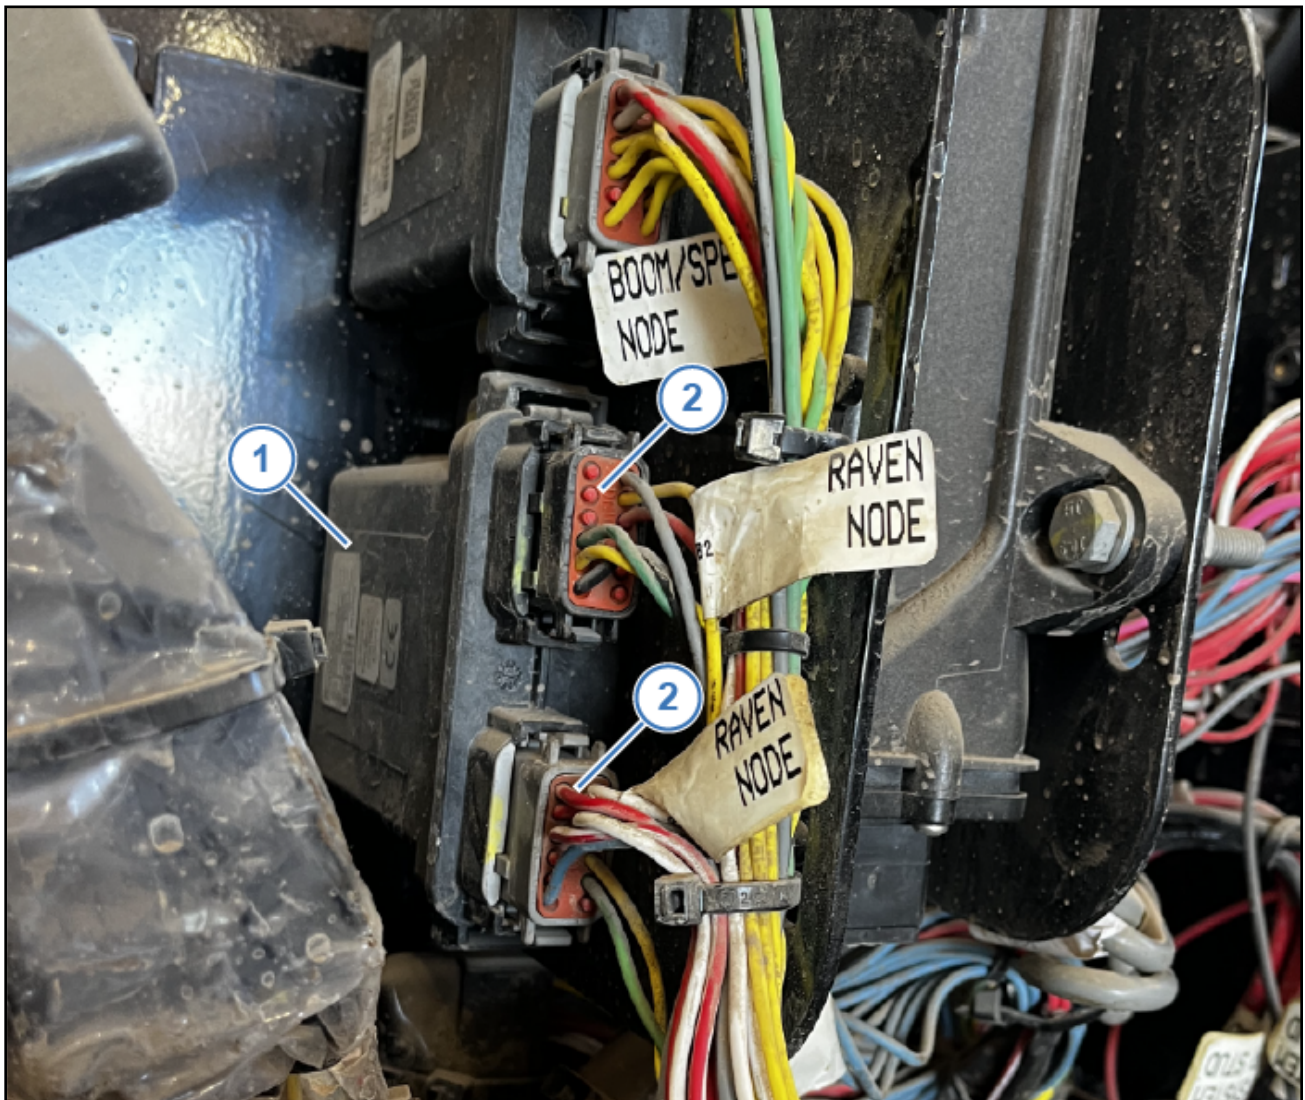

Figure 8: Product Node
16. Locate the product node (Figure 8, Item 1) and disconnect it from the machine harness.
17. Connect the two product node connectors (Figure 8, Item 2) into the Chassis Harness.